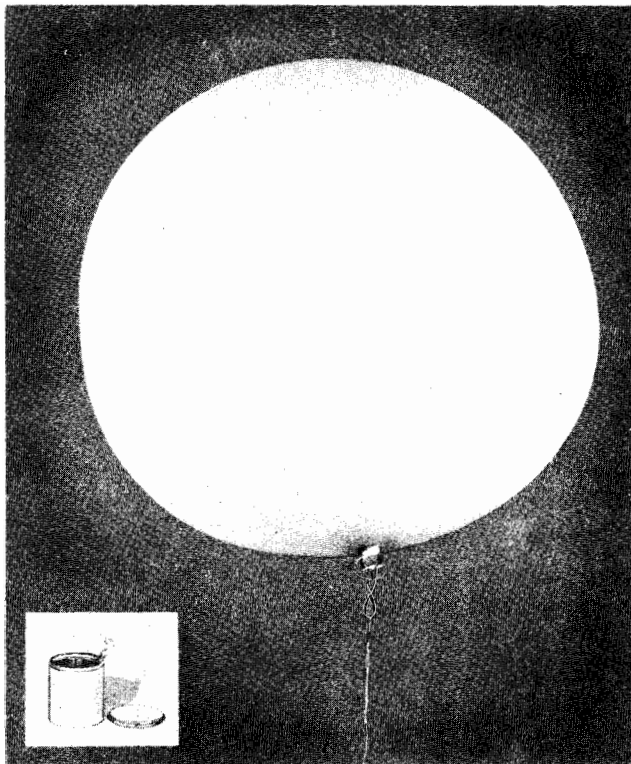

Figure 7—Balloon M-278-A, Inflated with Antenna Attached
d. HYDROGEN GENERATORS.— A hydrogen generator (see fig. 6) is used to inflate the balloon. Upon coming in contact with water, hydrogen is generated by a chemical solid within the container. The hydrogen is supplied to the balloon by means of an inflating tube (see fig. 7).
(1) Generator M-315-A is the original type and has been supplied with all sets to date (July 1943). Its operating time is about 40 minutes, and it is quite
(3) Generator M-315-C is filled with three pounds of calcium hydride. There is no appreciable difference between it and Generator M-315-B as far as use and performance are concerned.
e. BALLOON M-278-A.—This balloon is for raising the antenna when lack of wind does not permit use of the kite. Inflated, its diameter will be approximately 4 feet (see fig. 7).